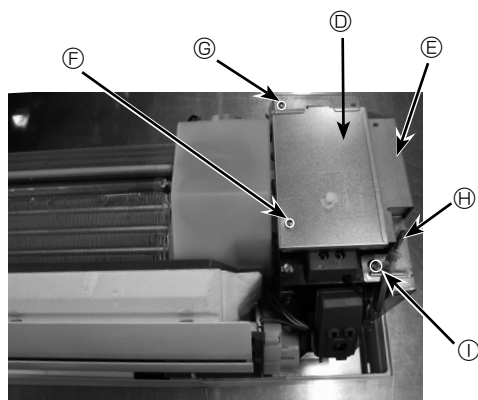

Fig. 6-4
5. Remove the room temp. thermistor TH1. (Fig. 6-4)
6. Remove the electrical box covers (screw 4 × 12). (Fig. 6-4)